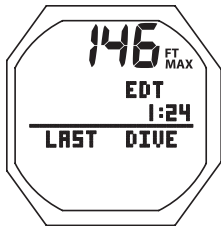

Fig. 116 - GAUG SURF ALT 1
**GAUG SURF ALT 1**, information includes (Fig. 116):